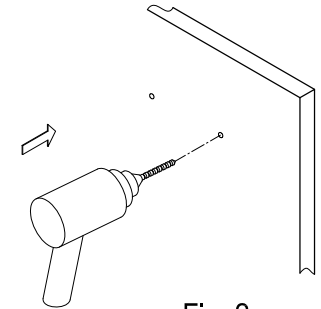

Fig. 2
Step 2. Drill holes at the marked locations (fig 2).